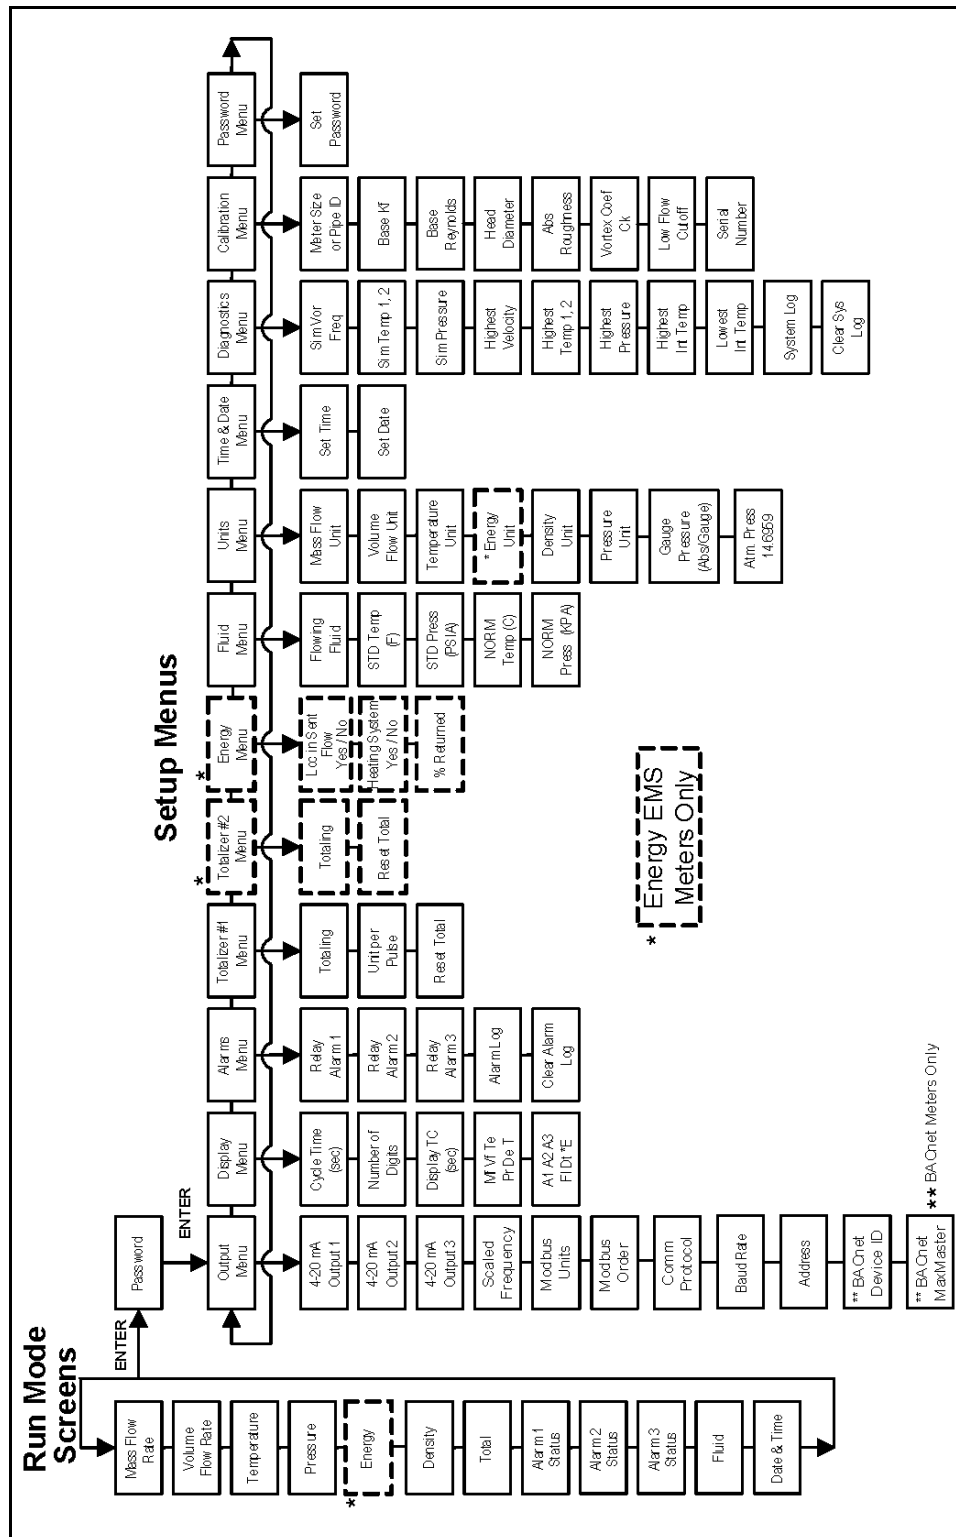

Figure 97: Complete Map of Setup Menus
3. Use the Setup Menus described on the following pages to customize the multi-parameter features of your PanaFlow meter. The entire lower display line is available for entering parameters. Some menus in Figure 97 below may not be displayed, based on flow meter configuration settings.